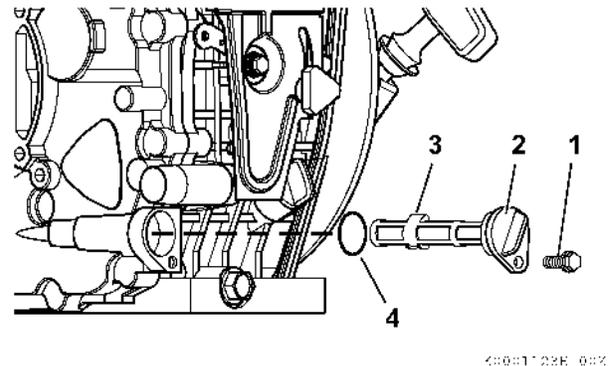

Figure 40
- Remove the oil filter retaining bolt (1, **Figure 40**).
- Pull the oil filter cap (2, **Figure 40**) out and remove the oil filter (3, **Figure 40**).
5. Lubricate the O-ring (4, **Figure 40**) with oil and reinstall the oil filter (3, **Figure 40**).
6. Make sure the oil filter cap (2, **Figure 40**) is fully seated.
7. Reinstall and tighten the oil filter retaining bolt (1, **Figure 40**).